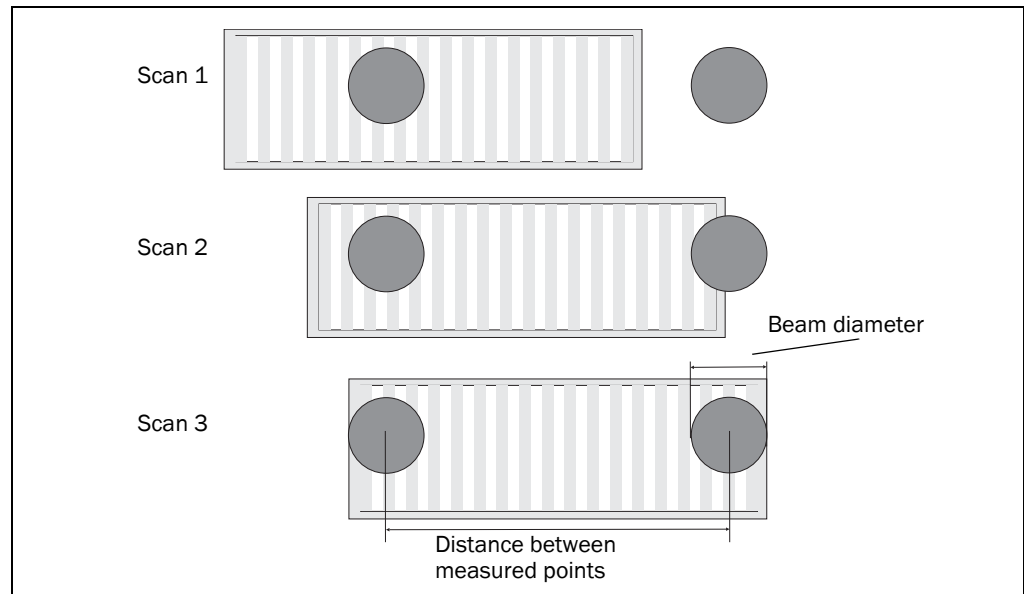

Fig. 14: Minimum object size for detection
**Important** In the example in Fig. 14, the beam is fully incident on a moving object at least once during each scan. It will therefore be reliably detected if it has the necessary remission.